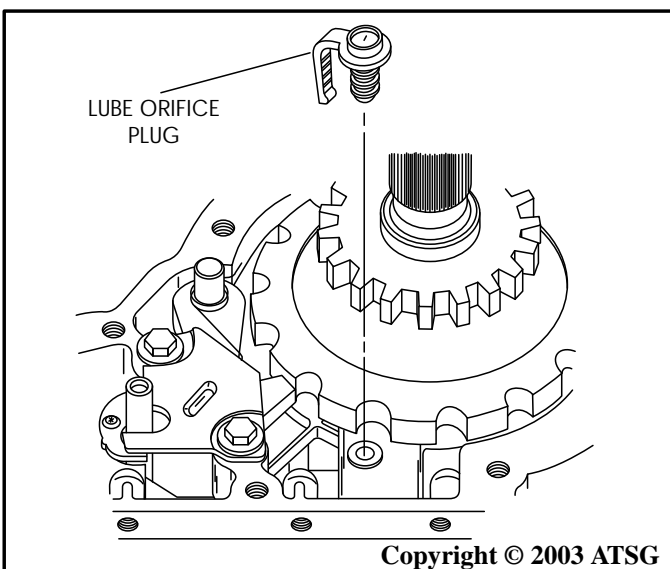

Figure 83
8. Install a **new** lube orifice plug into the case, as shown in Figure 83, and ensure fully seated.